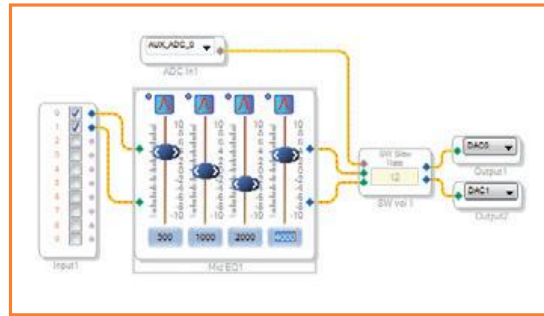

Figure 6.
- Connect the blocks as pictured in **Figure 6**.